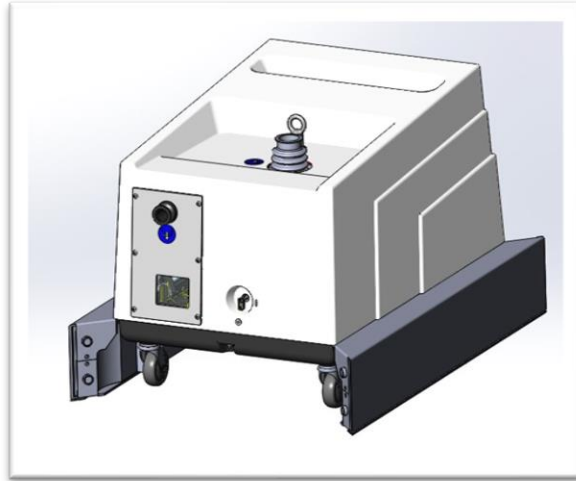

Figure 2. MS120 pump with Noise Abatement Panel, Long
- 2 Install the two Noise Abatement Panel, Long under the pump, as shown in figure 2: